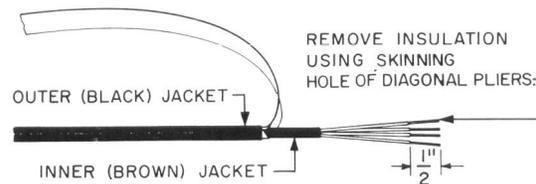

Fig. 4 — Wire Ready for Splicing
(6) Using the skinning hole of diagonal pliers, remove 1/2 inch of insulation from the end of each conductor, as shown in Fig. 4.
(6) Remove the inner jacket for a distance of about 2 inches from the end of the wire. This can be done by using the sheath slitter as before or by cutting the jacket with diagonal pliers, starting at the open end of the jacket. Exercise care not to damage the conductor insulation.
(7) Using the skinning hole of diagonal pliers, remove 1/2 inch of insulation from the end of each conductor, as shown in Fig. 4.